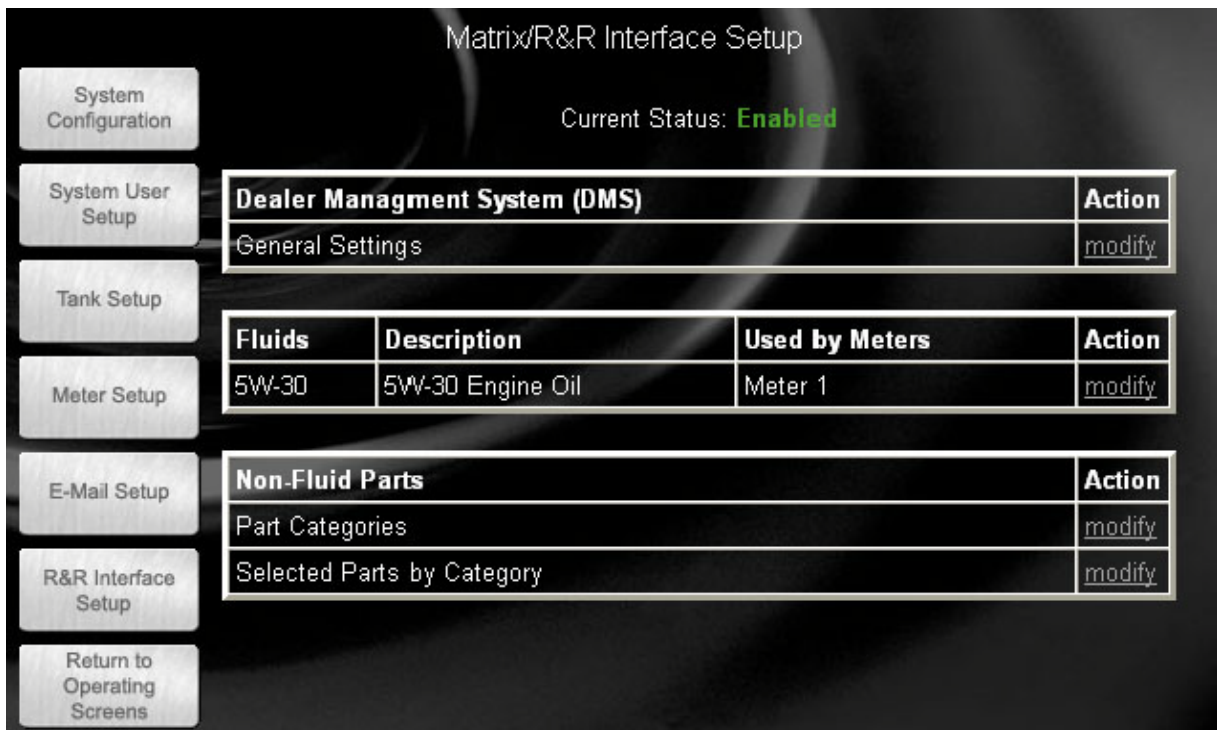

FIG. 93 Matrix / R&R Interface Setup
The R&R Interface Setup screen (FIG. 93) contains all the setup configuration necessary for Matrix to apply the appropriate fluid charge to an R&R Repair Order (RO).
By default, when Matrix is installed, the R&R interface is disabled. The screen shown in FIG. 93 displays the interface in the enabled state. The Graco Matrix distributor installs and configures the Matrix system with the interface in the default disabled state. A Graco Technical Support person assists the dealer to enable and test the interface connection between Matrix and the DMS as the last step in commissioning the system.
Each fluid used by a Matrix meter will appear in the center of the Matrix R&R Interface Setup screen (see FIG. 93, page 51 and FIG. 97 [above]). The interface configuration for each fluid applies to all meters that dispense that fluid and have their interface state setting enabled. Clicking the modify link for a fluid brings up the unit pricing configuration page, whose content varies depending on whether the interface is configured for Parts or Gas, Oil, Grease (GOG) on the General Settings screen.